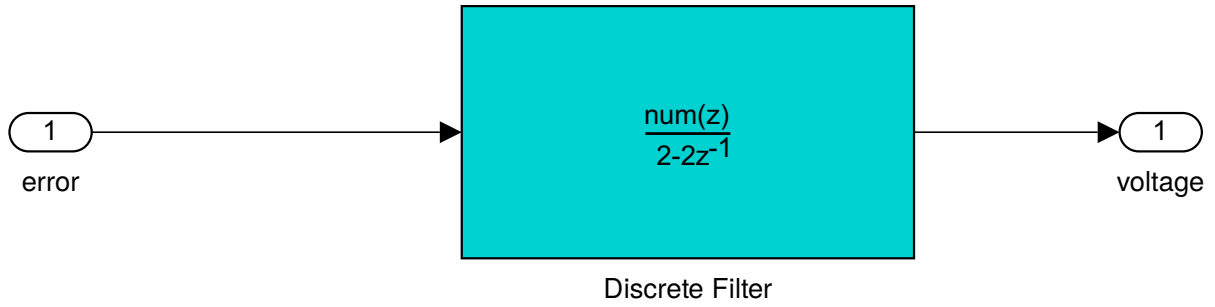

Figure 1.16: Change the PID controller subsystem to make it discrete. Take the sample-time from the workspace variable `Tsample` initialized to 0.1 seconds.
4. Now change the PID controller subsystem of one of the two controllers to that shown in Fig. 1.16. You will need the block Discrete/Discrete-Filter from the SLB. Double-click the block and specify the discrete transfer-function. Enter the numerator and denominator of $G(z)$ from (1.44) in the expected format. In the field "Sample Time" enter `Tsample`.